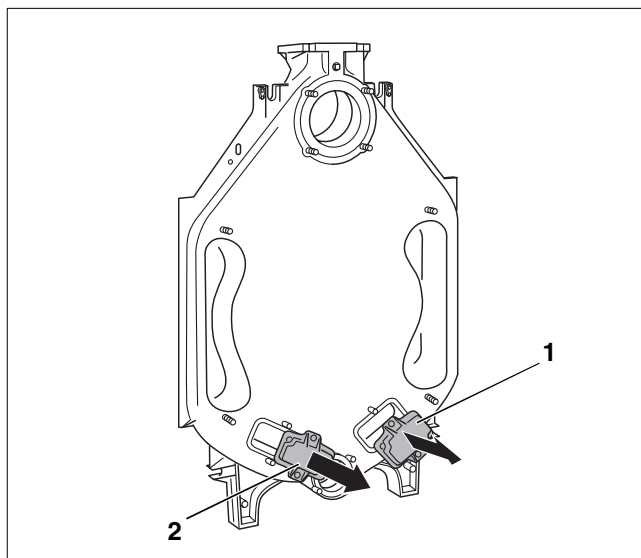

Fig. 7 Removing cleaning covers
- Unscrew the cleaning covers from the rear section (Fig. 7, ref. 1 and 2).